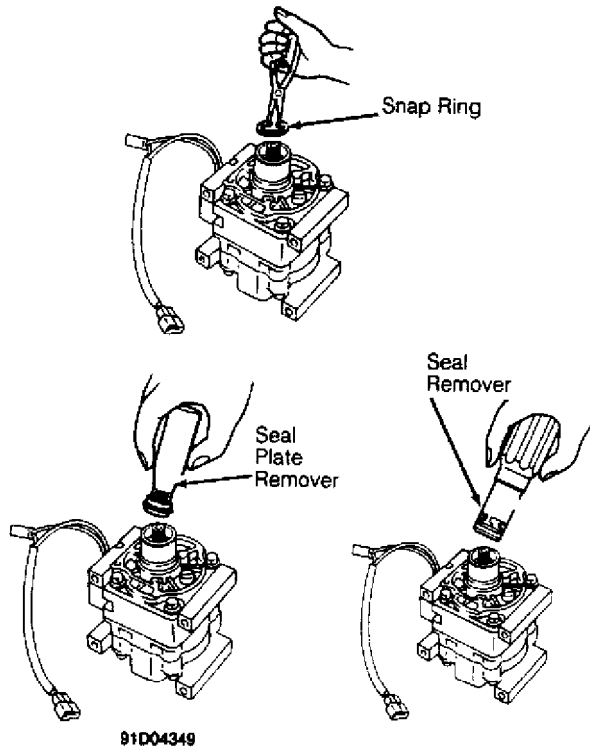

Fig. 16: Removing Rotary Vane Compressor Shaft Seal (Panasonic)
Remove clutch and coil. Remove seal plate snap ring. Using seal plate remover, engage seal and remove seal plate. Using seal remover, engage seal ears and remove seal. See Fig. 16. To install, reverse removal procedure. Coat new seal plate and seal with clean refrigerant oil before installing. DO NOT touch seal surfaces with fingers.
1) Hold clutch hub stationary and remove shaft nut. Remove clutch plate using puller. Remove external front housing snap ring and internal bearing snap ring. See Fig. 16.